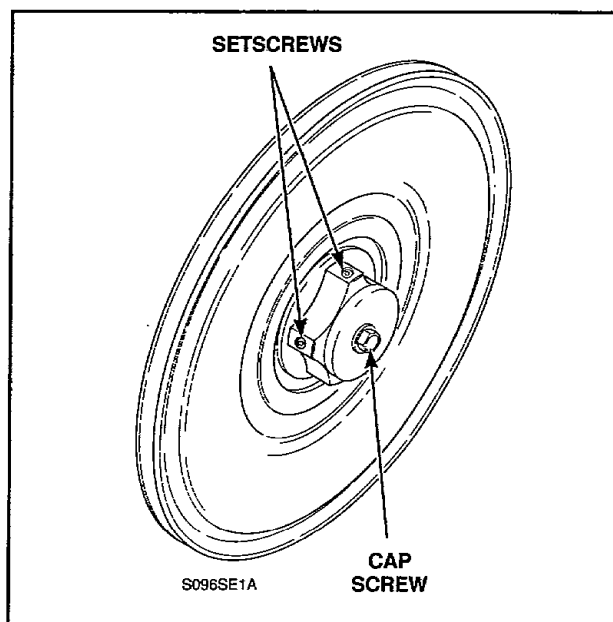

Figure 39
- c. Remove cap screw, lockwasher and flat washer from end of cylinder shaft, *Figure 39*.
- d. Loosen two setscrews, *Figure 39*, holding pulley and hub assembly to cylinder shaft and pull pulley off shaft.
- Remove cap screw, lockwasher and flat washer from end of cylinder shaft, *Figure 39*.
- Loosen two setscrews, *Figure 39*, holding pulley and hub assembly to cylinder shaft and pull pulley off shaft.
- Loosen two setscrews, *Figure 39*, holding pulley and hub assembly to cylinder shaft and remove pulley off shaft.
- d. Remove cap screw, lockwasher and flat washer from end of cylinder shaft, *Figure 39*.
- e. Loosen two setscrews, *Figure 39*, holding pulley and hub assembly to cylinder shaft and remove pulley off shaft.